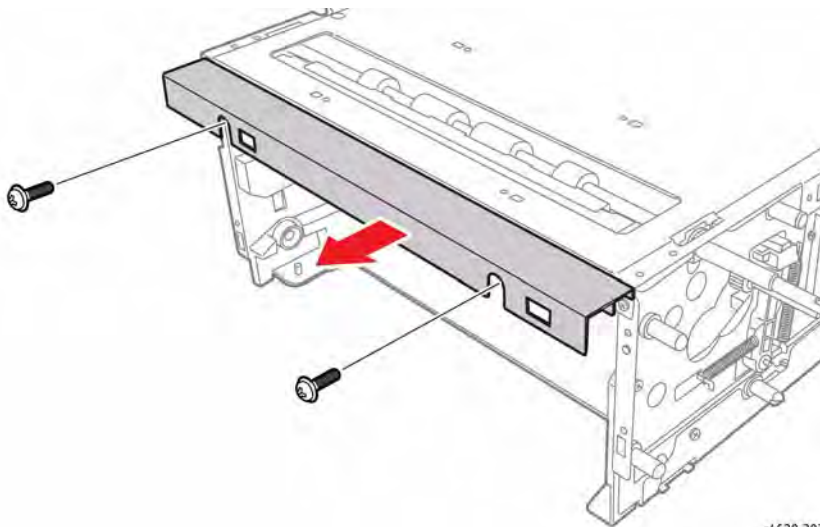

Figure 1 Remove the frame rail
10. Remove the 2 screws that secure front frame rail to the chassis, Figure 1.